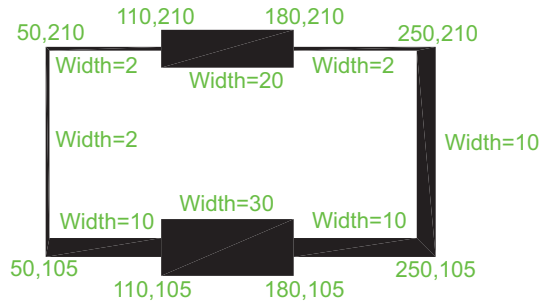

Fig. 3.35 Exercise 8
8. Construct the outline (Fig. 3.35) using the **Polyline** tool.